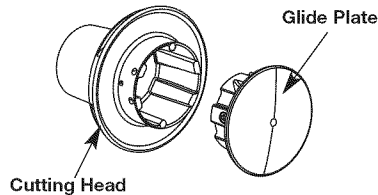

Fig. 15
3. Reinstall line glide plate (Fig. 15). The glide plate is a keyed item and will only fit one way. If it does not go into the cutting head smoothly, DO NOT force it. Rotate the glide plate until it slides into the cutting head easily.